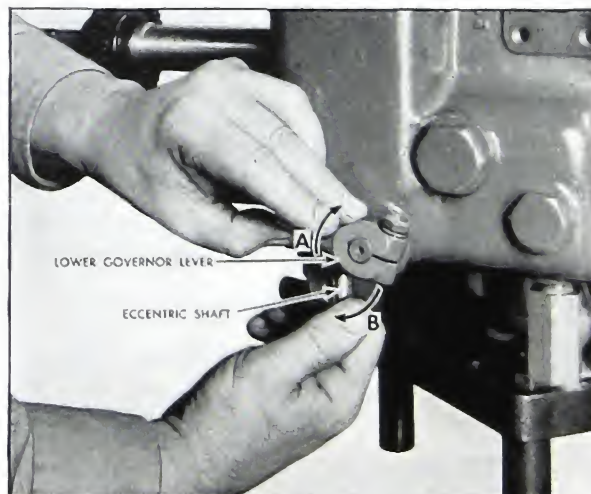

Fig. 5-153. Fuel control lever
6. To install the fuel control lever, turn in the eccentric shaft in direction of arrow "B" to stop pin. This is the "off" position for the hand control lever. Fig. 5-153.